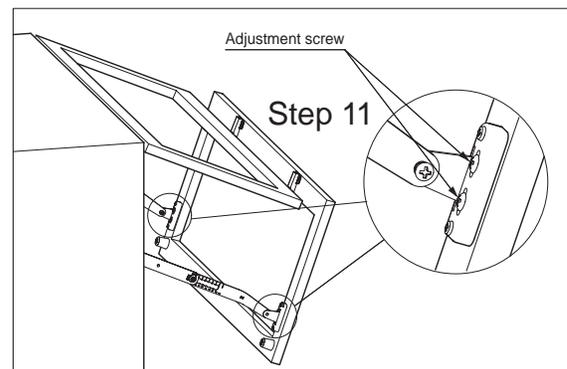

Fig. 10 Adjustment screw in detail
×2: In addition door height is also slightly adjustable in the range of ± 5mm by the adjustment screw of HBFN-SZ mounting plate. (Refer to Fig.10)
Step10. Set the doors (which are connected the upper door and the lower door with the off-set hinges④ in Step 7) to the cabinet. In case of easy attachable concealed hinges, make sure that the concealed hinge could connect with its mounting plate firmly. Place the arm top hole into the axis of HBFN-SZ mounting plate⑦. Fix the both of arm (right-side and left-side) to the HBFN-SZ mounting plates with the attached truss screws M4 x 6 ⑩ tightly.
Step11. The HBF-SZ mounting plates have vertical adjustable function in the range of $\pm 5\text{mm}$, so that the arm mechanical movement can be tweaked for more proper door closing movement even after the installation. (Fig. 10)